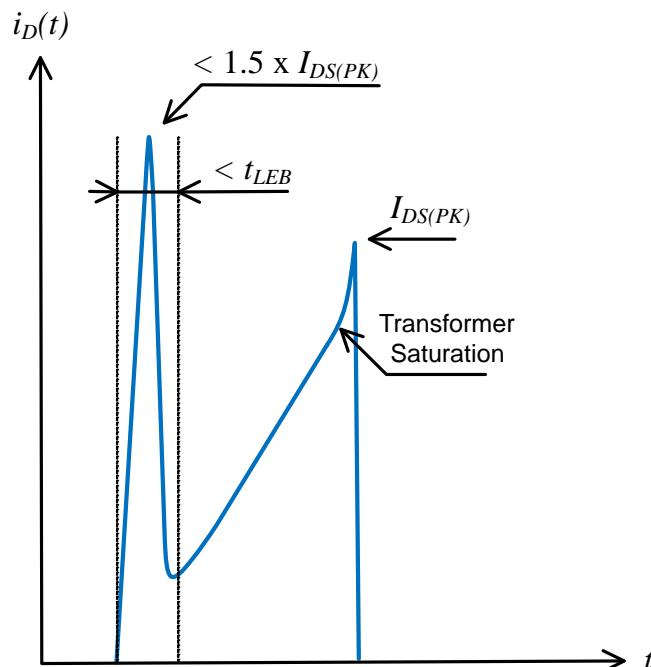

Figure 4. Spike Limits
2. Maximum drain current I_{DS(PK)} is obtained when the transformer saturates. It should not be mixed with short pulses that can be seen at turn on. Figure 4 below provides spike limits the device can tolerate.